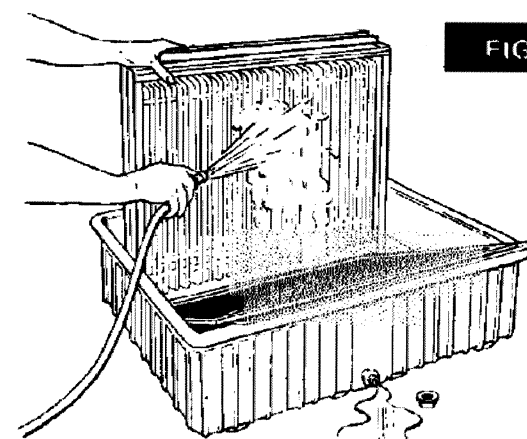

FIG. 25
- A. Hold cell upright in container. Fig. 25.